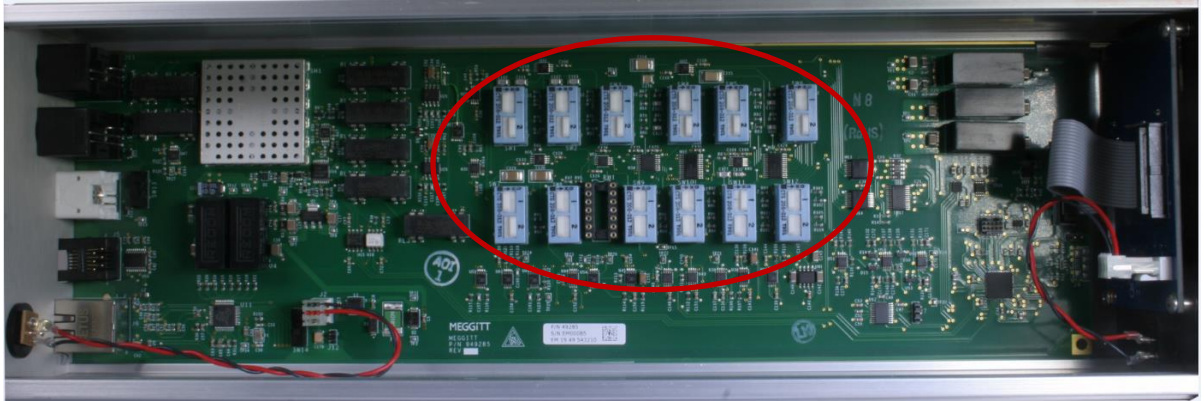

Figure 3: Filter and integrator switches
- DC: Fixed at 10 Volts DC full scale. An internal switch (see Figure 3: Filter and integrator switches) selects DC equivalent of the AC output (adjustable full-scale output from 0.001 to 10.000 Volts DC). This switch is identified, on the PC board, as SW13.